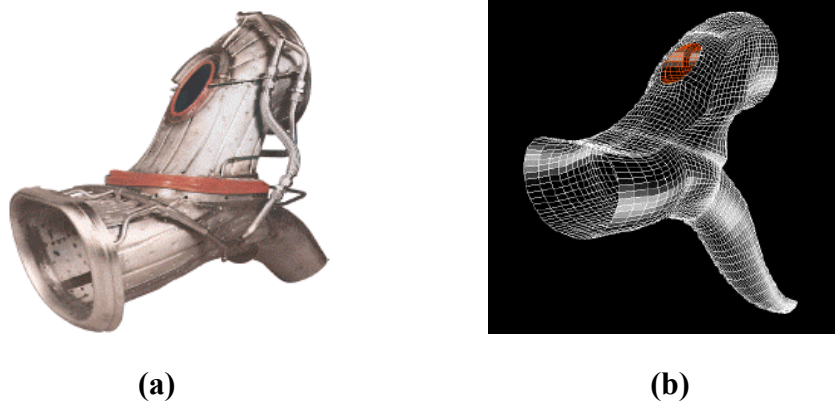

Figure 1: Computer modeling of an aerospace industry component
Step 2 Grid Generation: This step is used to specify the geometry of the system, such as radius of a pipe that is to be modeled. It is also during this step that the user sets the boundary conditions, such as the inlet or outlet of a pipe. Figure 1-a is a component used in the aerospace industry, figure 1-b is the grid that was created to model this component for CFD analysis.